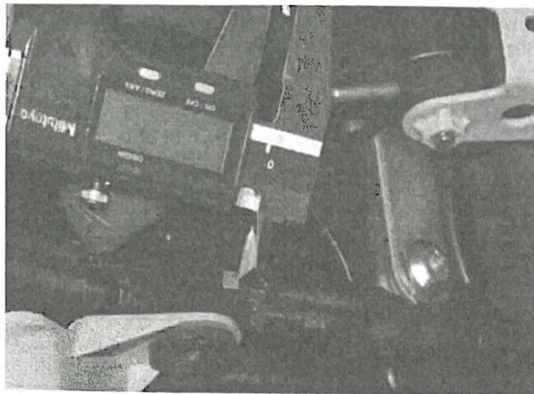

Figure 40
7. For street legal SLIP-ON (with exhaust valve) only: adjust the cable adjusters to original position, tighten the nuts and slide the rubber protection over adjusters (Figure 40, 41, 42).